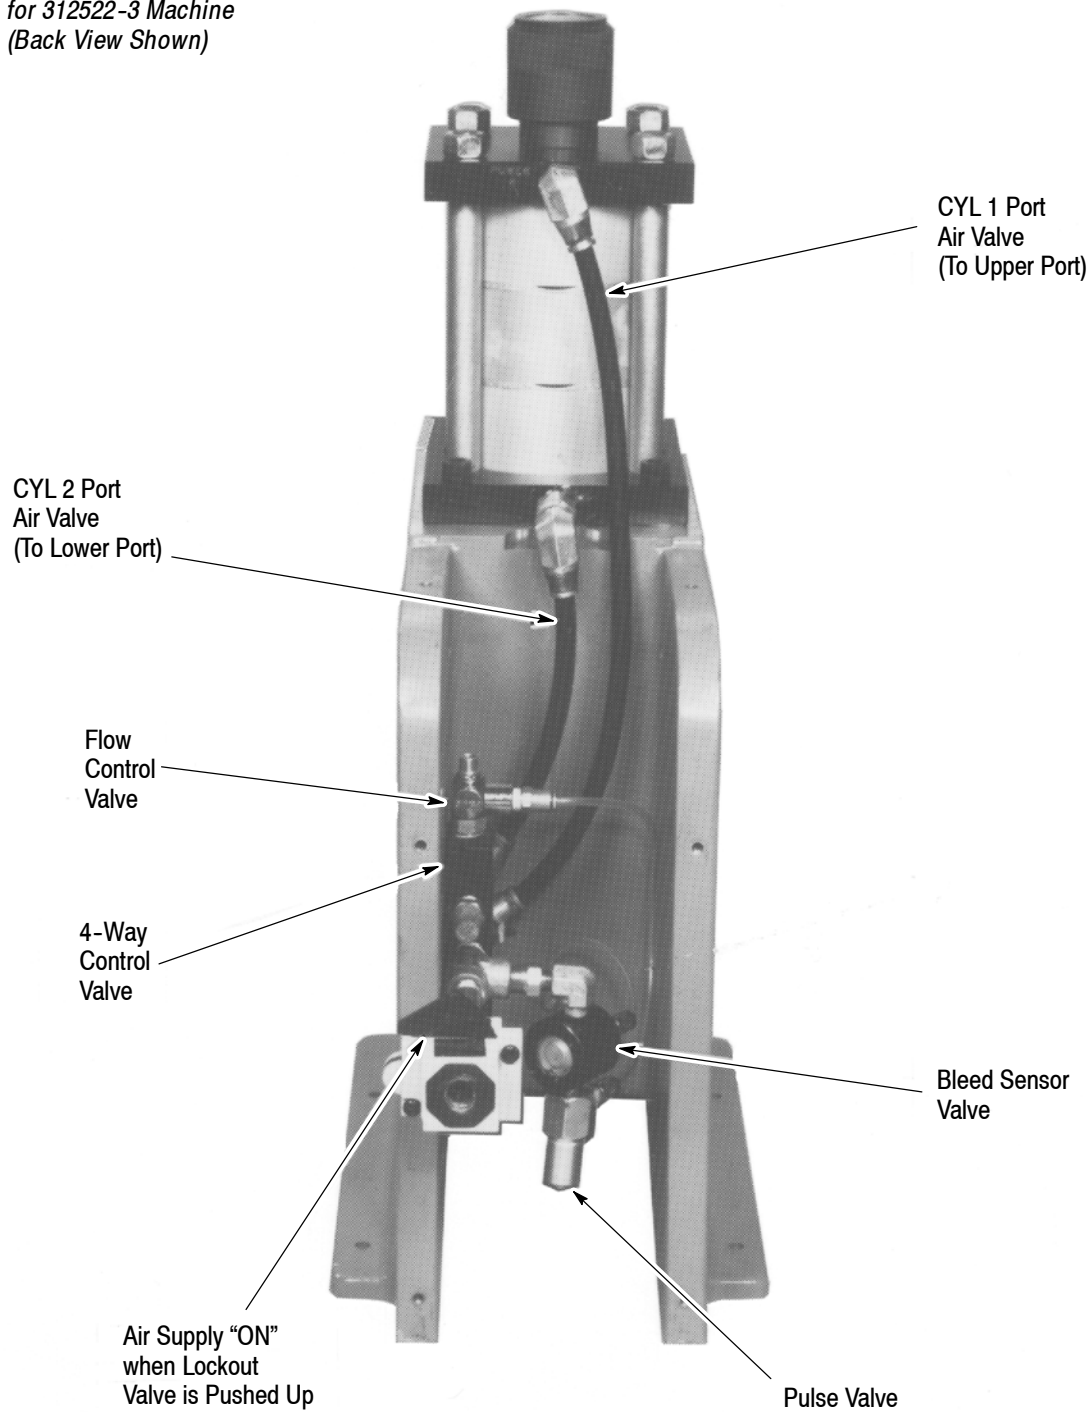

Figure 15
5.3. Troubleshooting 312522-3 Machine (Figure 15)
2. Check the bleed sensor valve and pulse valve (see Figure 15); proceed as follows:
3. Check the 4-way control valve (Figure 15) as follows:
These valves are self-contained units that can be replaced. Refer to Figure 15, which shows the 4-way control valve, and to the pneumatic diagram in Section 2.3, Pneumatic Description. Proceed as follows: